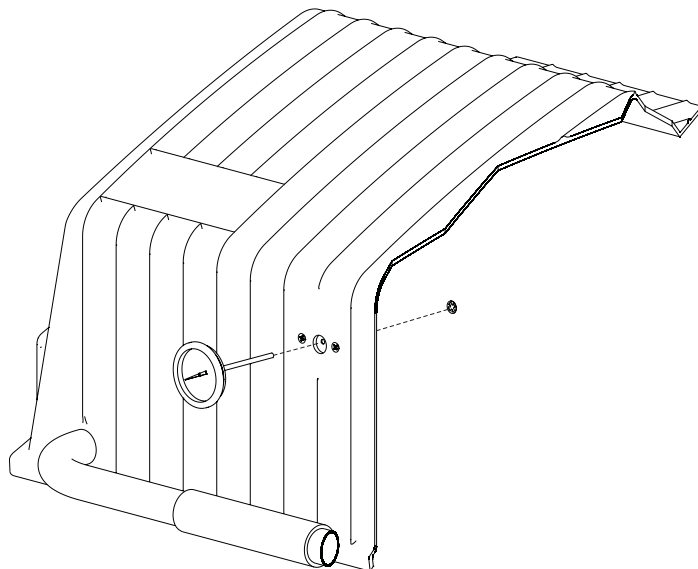

Figure 22
1. Insert heat indicator probe through the hole in the grill body lid and slide on push nut to secure. See **Figure 22**.